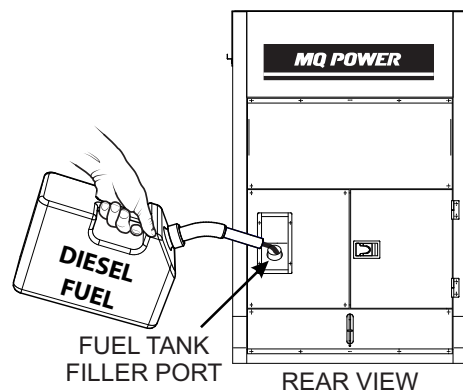

Figure 31. Fueling The Generator
2. Remove the fuel cap and fill the fuel tank as shown in Figure 31.